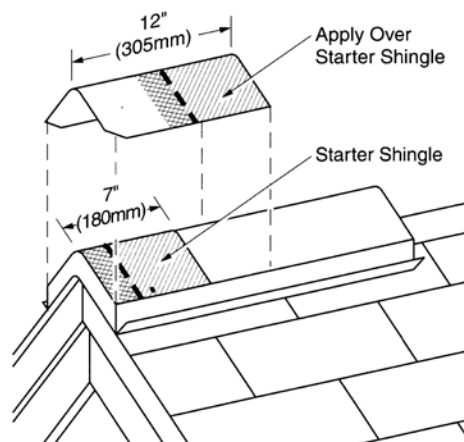

Figure 15-15: Apply a full Accessory shingle over the starter piece, flush with the bottom and side edges of the starter.
2. Install caps beginning at the bottom of a hip or at either end of a ridge. Apply a starter piece that has the bottom 5" removed (Figure 15-15). Fasten the starter with two nails located about 3" from the rake edge, and 1" in from each side edge. Make sure fasteners used to apply caps are at least 1 3/4" long and able to penetrate at least 3/4" into or through the decking.
3. Apply a full Accessory shingle over the starter (Figure 15-15), and place fasteners at 5 5/8" up from the exposed bottom edge and 1" in from each side. Nails must not be exposed on the finished roof. All nail heads must be driven straight and must not cut into the shingle surface.